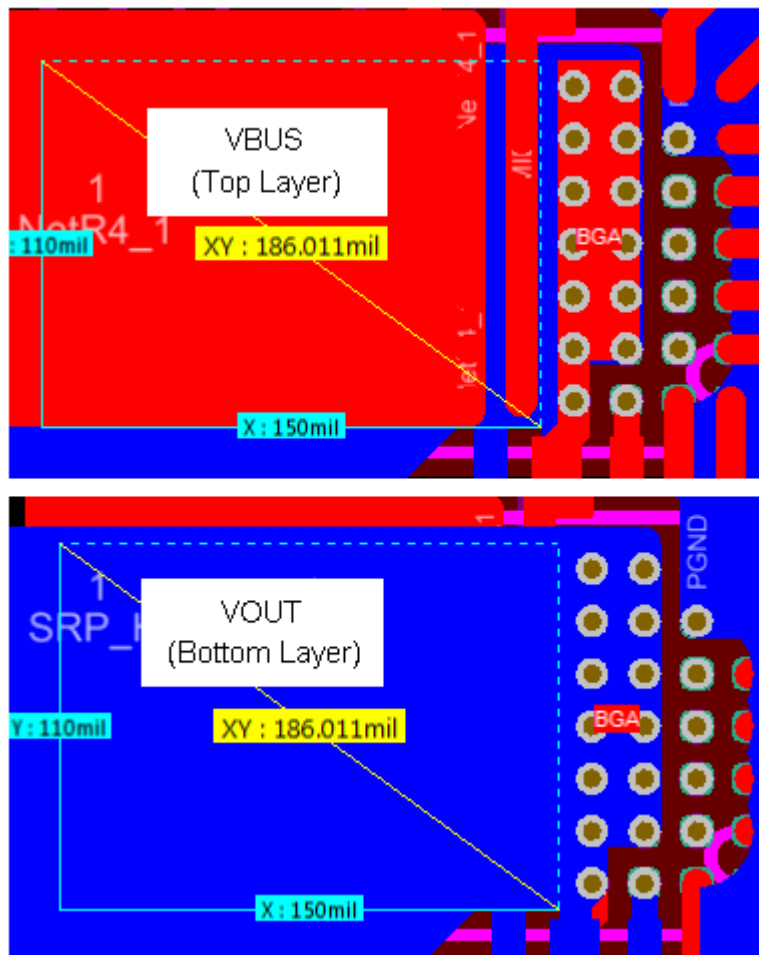

Figure 7. Top and Bottom Layer Layout Guideline for VBUS and VOUT
1. Use a Cu trace of at least 110 mil (2.794 mm) wide for VBUS and VOUT, respectively. This allows current flow evenly through all 7 WCSP solder balls (see Figure 7).
2. The Cu trace of VBUS and VOUT should run at least 150 mil (3.81 mm) straight (perpendicular to the WCSP ball array) before making turns (see Figure 7).